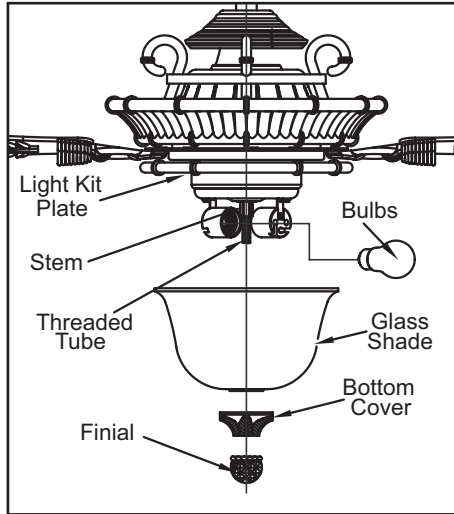

Figure 10
4. Raise the glass shade up against the light kit plate of the fan motor assembly and secure with the bottom cover and finial removed in step 1 (Figure 10).